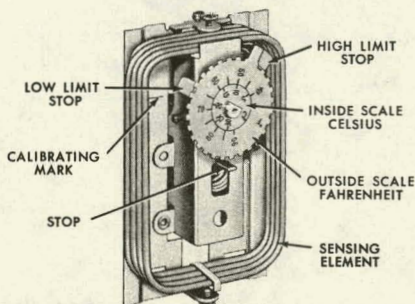

Fig. 2 — Interior of Series T26. Note how element is wrapped around inside of thermostat for maximum sensitivity. Integral adjustable high and low limit stops.
- Low and high limit dial stops — concealed, adjustable throughout set point range. Can be set for locked dial. See Fig. 2.
steel cover with "tawny silver" finish. The faceplate is dark brown and light brown with aluminum numbers and graduation marks. The internal dial on these thermostats has a dual Fahrenheit-Celsius scale, see Fig. 2. When a faceplate with Celsius thermometer and set point scale is used the thermostat is totally Celsius.
The liquid charged sensing element is formed to achieve maximum sensitivity to surrounding air temperature changes (see Fig. 2). Coupled with a highly efficient diaphragm and leverage mechanism, the element operates a totally enclosed Pennswitch contact unit for close differential and dependable switching action without the use of "heat or cool" anticipators.